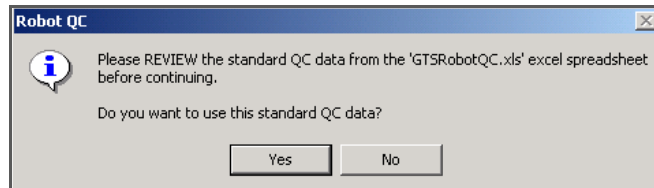

Figure 90 Use Standard Curve Data Prompt
- When prompted, accept the most recent Standard Curve data (Figure 90).